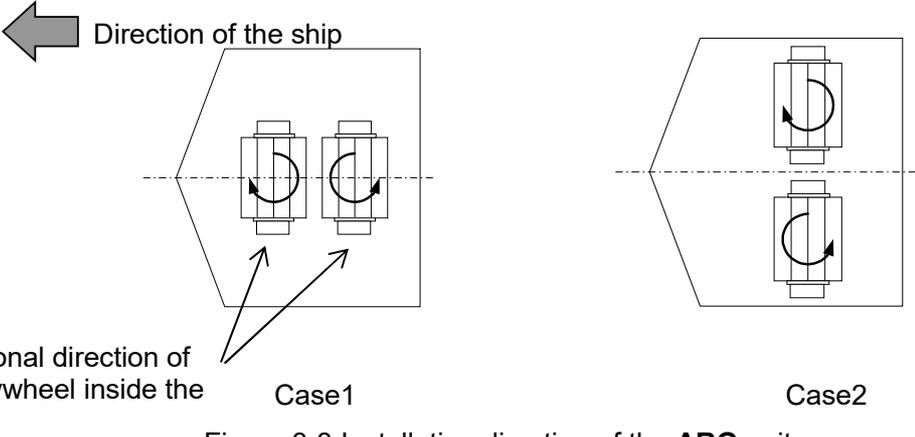

Figure 3-3 Installation direction of the **ARG** unit
③ Install the **ARG** unit so that their longer sides are perpendicular to the centerline of the ship as shown in Figure 3-3.
- ④ If multiple **ARG** units are installed, the **ARGs** next to each other must rotate in the opposite directions as shown in Figure 3-3.